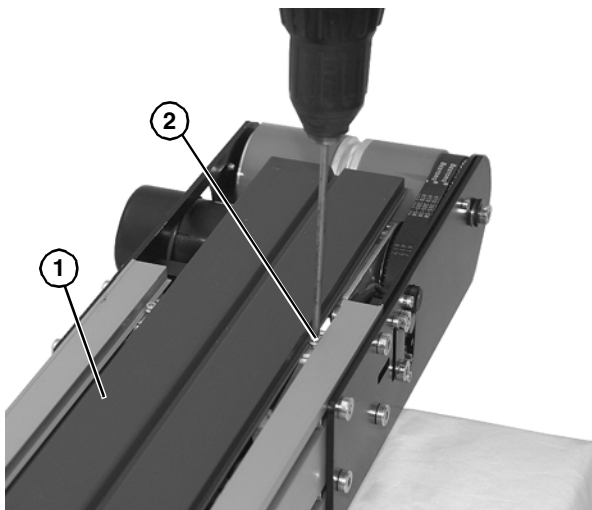

Figure 66
2. Remove wear plate (**Figure 66, item 1**) by removing plate fastening screws (**Figure 66, item 2**) on each side and end of conveyor